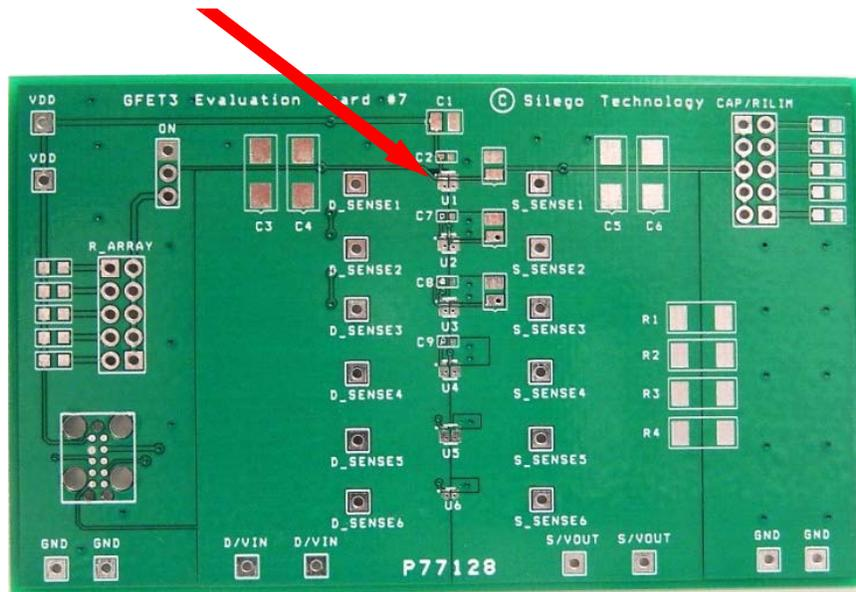

Figure 1. SLG7NT402V Evaluation Board.
2. Since the D/VIN and S/VOUT pins dissipate most of the heat generated during high-load current operation, it is highly recommended to make power traces as short, direct, and wide as possible. A good practice is to make power traces with an absolute minimum widths of 15 mils (0.381 mm) per Ampere. A representative layout, shown in Figure 1, illustrates proper techniques for heat to transfer as efficiently as possible out of the device;
A GFET3 Evaluation Board for SLG7NT402V is designed according to the statements above and is illustrated on Figure 1. Please note that evaluation board has D\_Sense and S\_Sense pads. They cannot carry high currents and dedicated only for RDSON evaluation.